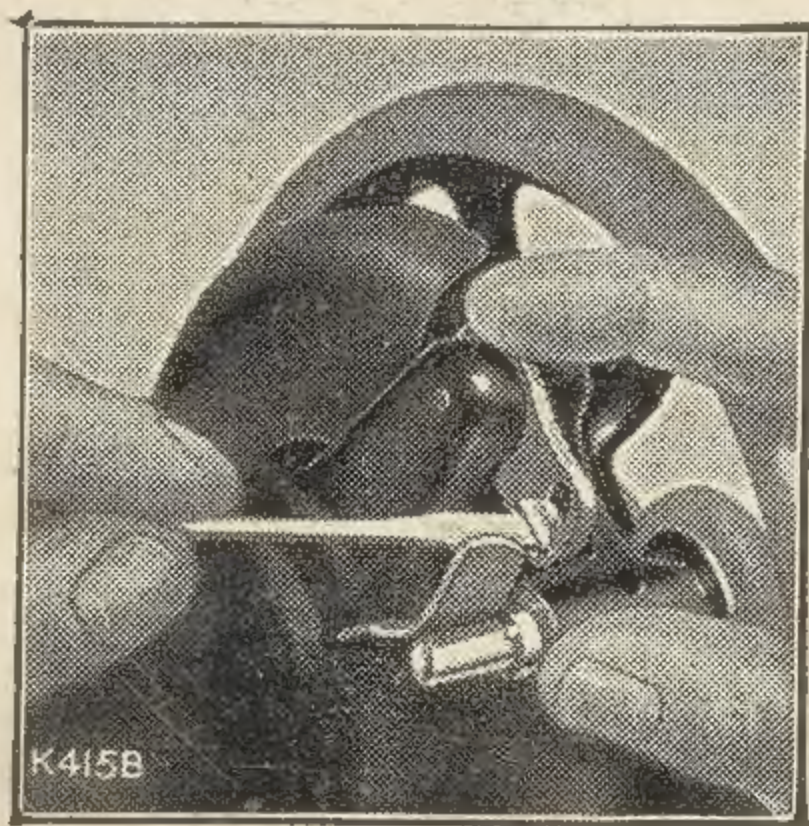

Fig. 3a.
With the forefinger push back the upper end of the slotted plate (see Fig. 3a) as far as it will go and, at the same time, with the thumb, press the winder against the ledge of the wheel. Then tighten screw (5) securely. Afterwards raise the latch to release the winder from contact with the balance wheel.